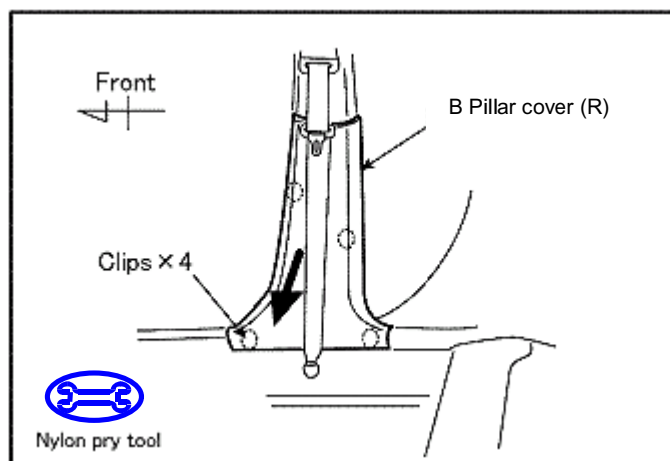
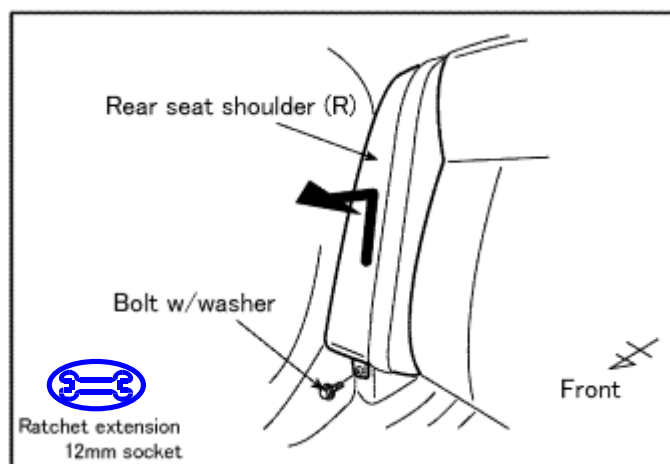

Figure G1
Figure H1
- ➡ 1. Use nylon pry tool to disengage clips on B pillar cover. (Figure G1)
2. Remove the B pillar cover. (Figure G1)
H. Remove the Rear Seat Shoulder (R)
- ➡ 1. Use 12 mm socket and extension to remove bolts located on rear seat shoulder. (Figure H1)
2. Remove the rear seat shoulder (R). (Figure H1)